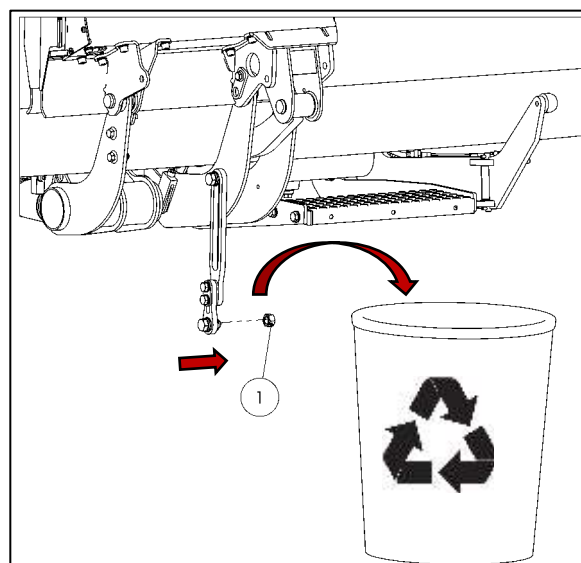

Fig. 59
- Remove and properly dispose of the nut on the transport lock (1) (see Fig. 59).